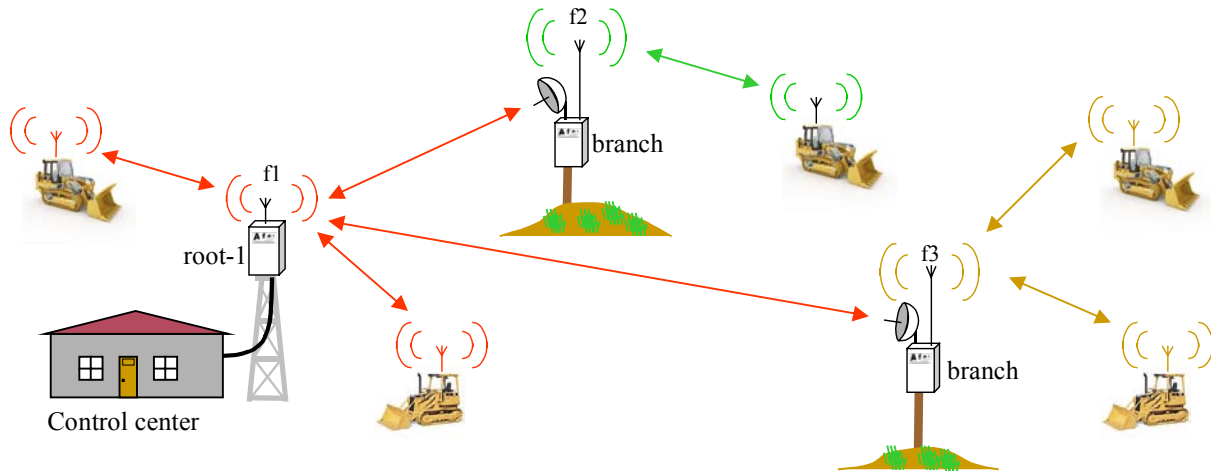

Figure 2.3– Roaming vehicles attaching to any of three access points
4. Using the Tree topology you can use the fixed nodes in the tree (root and branches) to provide the backbone network. Those same radios can also be the access points to the mobile leaf nodes. This approach depicted in Figure 2.3.